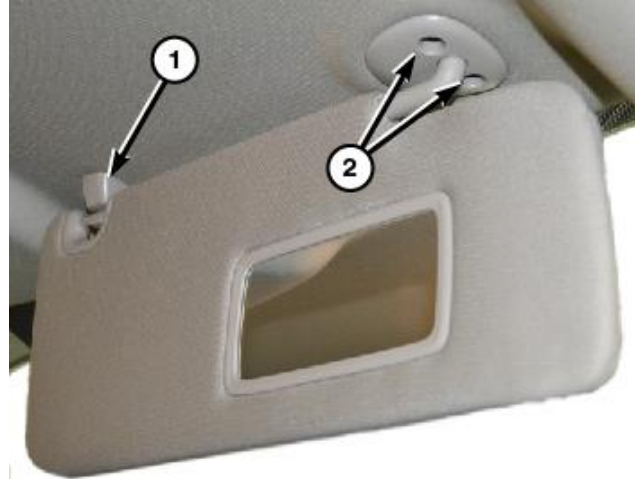

Figure 78 – Visors
20. Separate the visor from the support (1) then remove the screw and remove the visor support (Figure 78).
21. Remove the visor screws (2) then remove the visor (Figure 78).
41. Position the visor supports (1) onto the headliner and install the screws into the mounting clips (Figure 78).
43. Position the visor to the headliner and install the screws (2) that secure the visor to the roof panel. Tighten the screws to 6 N·m (53 in. lbs.) (Figure 78).